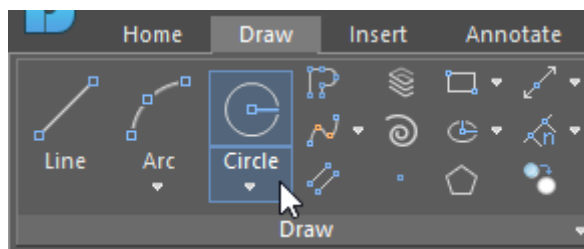

Fig. 4. The **Circle** command
2.2. On the **Draw** tab choose the **Circle** command (Fig. 4) to draw a circle of any diameter with a center in the origin of the coordinates.